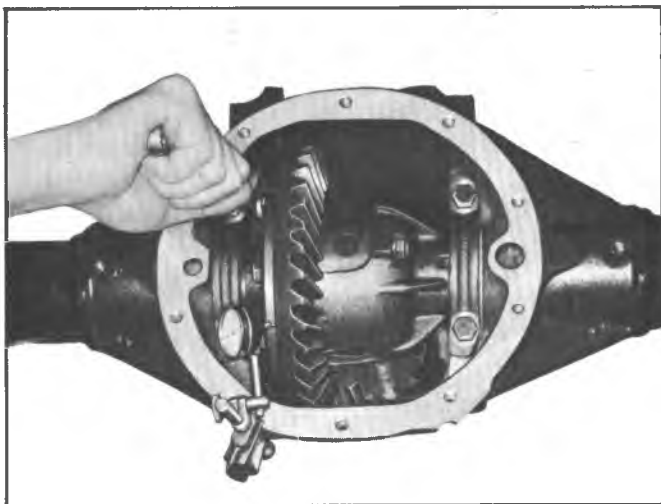

Fig. 11A—Checking Ring Gear Run-Out
14. If variation in backlash readings exceeds .002", measure ring gear and case runout as shown in Figure 11A. Gear runout should not exceed .003"; should runout exceed this limit check ring gear and case for deformation and/or foreign matter between case and gear.